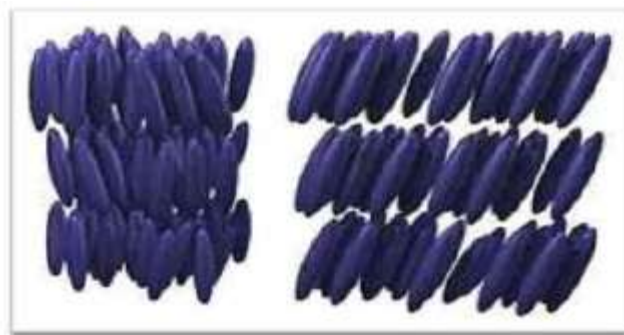

Figure 2: Nematic liquid crystal
3. The molecular long axis points on the average in one favored direction called director as shown in Figure 2.